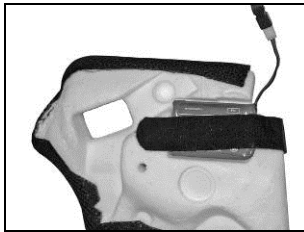

Fig. 28
- Position the right-hand side speaker in the specific cheek pad housing and secure it using the specific adhesive (Fig. 28).